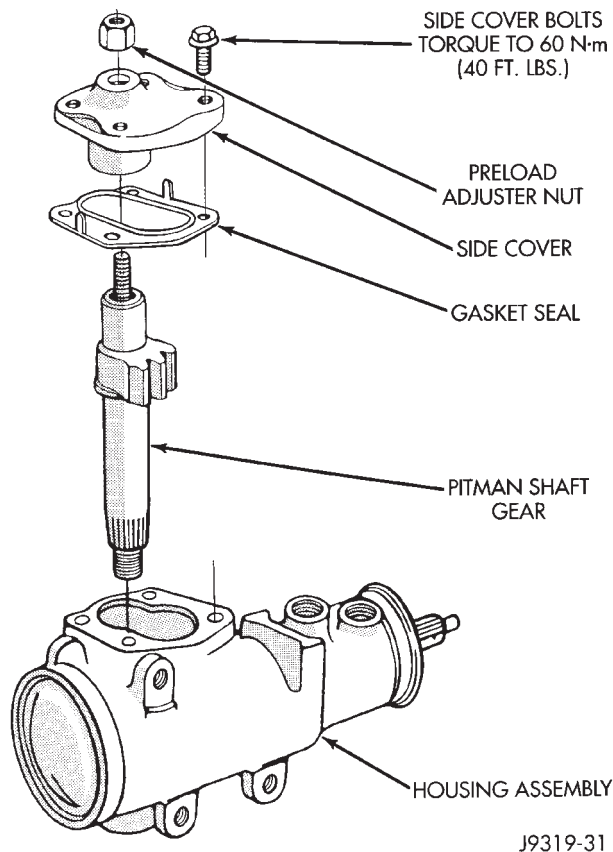

Fig. 15 Side Cover and Pitman Shaft
- (1) Remove preload adjuster nut.
- (2) Rotate stub shaft with socket to center gear. Remove side cover bolts.
- (3) Remove side cover, gasket and pitman shaft as an assembly.
- (4) Remove pitman shaft from the side cover (Fig. 15).